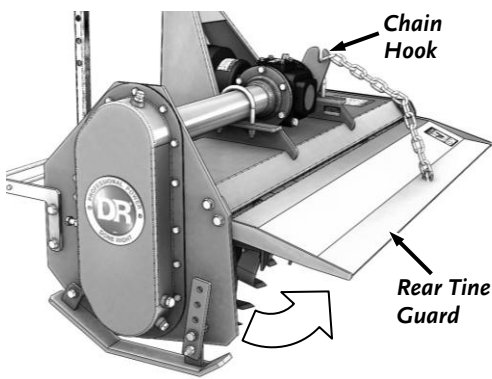

Figure 29
1. Rotate the Rear Tine Guard up and secure the Chain to the Chain Hook to hold it in place (**Figure 29**).